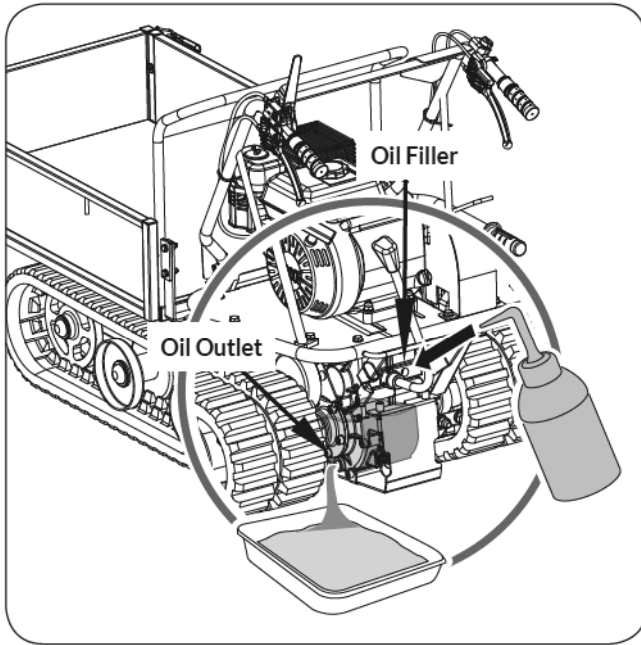

Figure 12
- » When replacing transmission oil, the engine must be stopped and still warm. Unscrew the filler cap and the drain plug. When oil is drained, replace the drain plug, fill up with fresh oil, and then replace the filler cap. (See **Figure 12**)